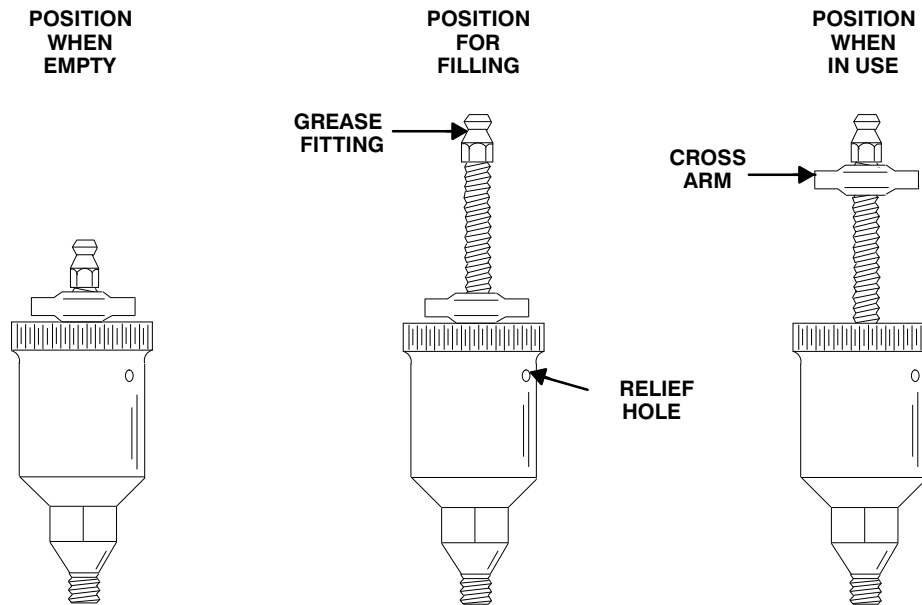

Figure 4. Automatic Lubricating Grease Cup
Before removing the impeller, turn the cross arm on the automatic grease cup (8) clockwise until it rest against the cover (see Figure 4). This will prevent the grease from escaping when the impeller is removed. Remove the grease cup (8).
with No. 2 lithium base grease until grease escapes from the relief hole. Turn the grease cup arm counterclockwise until it is at the top of the stem; this will release the spring to apply grease to the seal (see Figure 4).